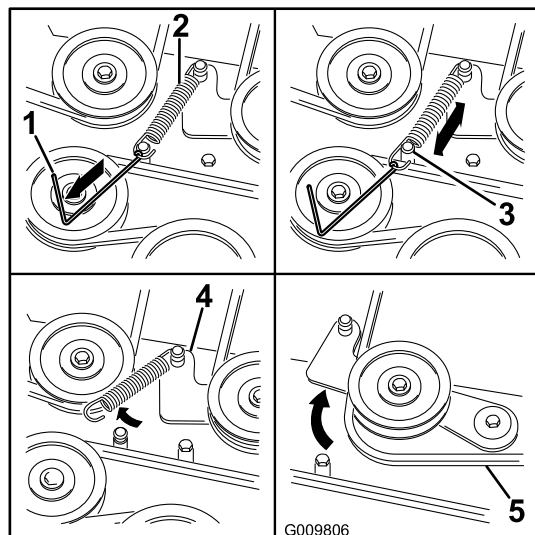

Figure 64
6. Using a spring removal tool, (Toro part no. 92-5771), remove the idler spring from the deck post to remove tension on the idler pulley (Figure 64).
9. Install the new belt around the mower pulleys and the clutch pulley under the engine (Figure 64).
10. Using a spring removal tool, (Toro part no. 92-5771), install the idler spring over the deck post and placing tension on the idler pulley and mower belt (Figure 64).